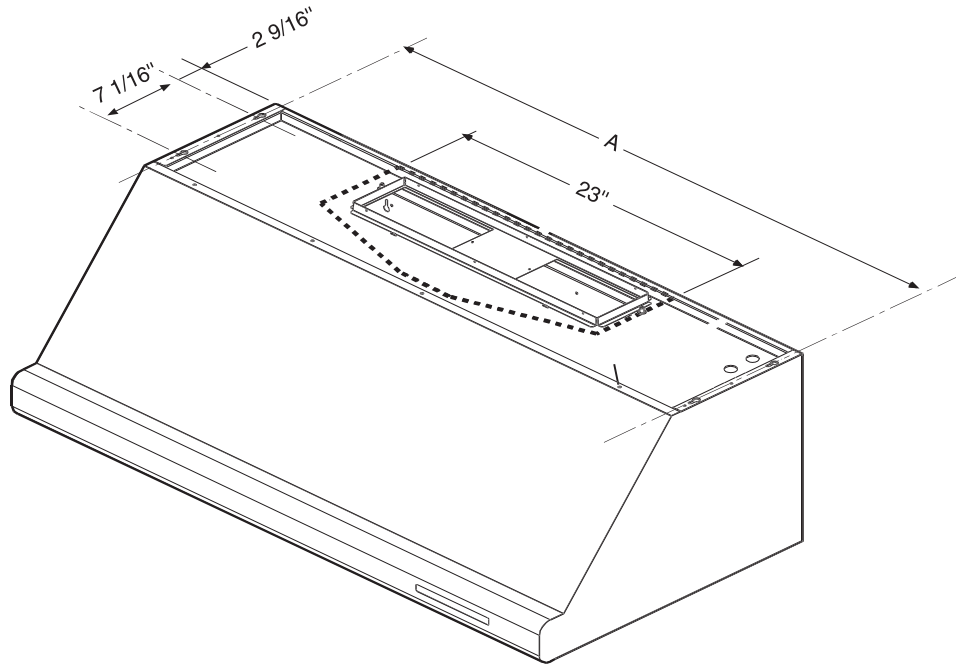

Figure 10 PHE
Figure 10 shows the four holes used for mounting the hood to the bottom of the cabinet.
1. In the base of the cabinet, drill 1/16" tap holes at the locations shown in Figure 10. Screw in four (4.2 mm x 18 mm) screws provided with hood leaving 1/4" exposed.